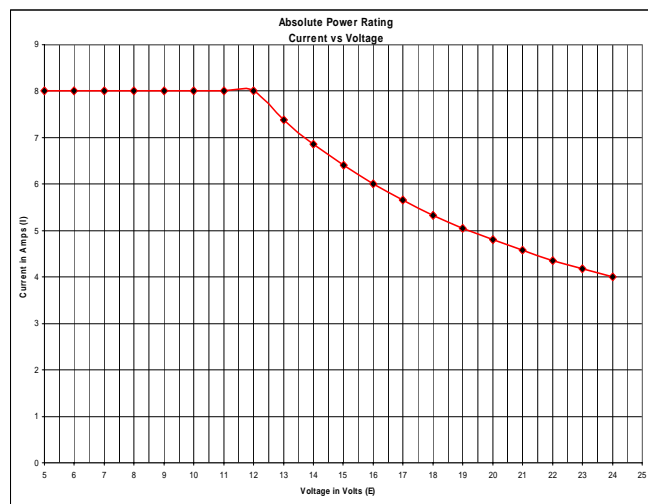

Figure 1 - Voltage vs Current
**CAUTION:** The DMC-8 is designed for DC motors with a nominal voltage of 5 to 24 VDC. It is capable of controlling 96 Watts of power per channel. At a motor voltage of 12 Volts, this means 8 amps of current (per channel). At 24 Volts, this drops to 4 amps/channel. Figure 1 shows the relationship between motor voltage and current..